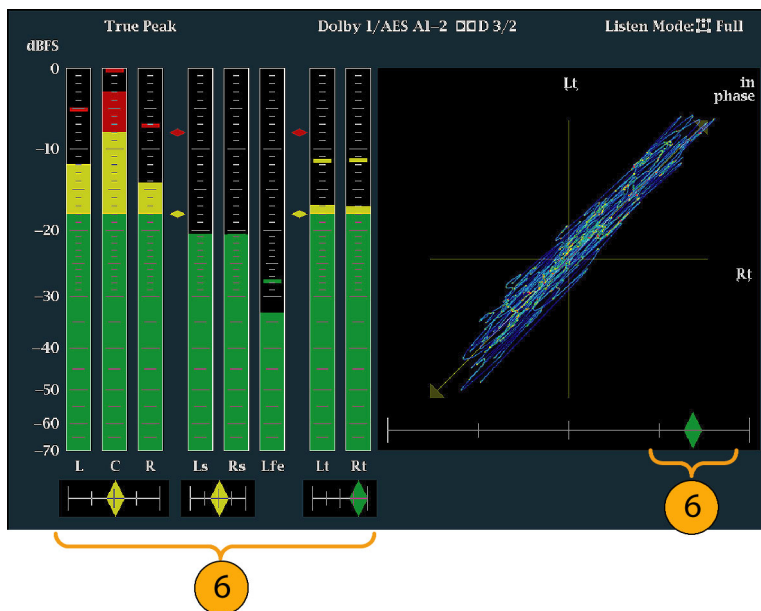

Figure 70: Checking for phase correlation
6. Check for Phase correlation of the signals, noting the following: (See Figure 70.)